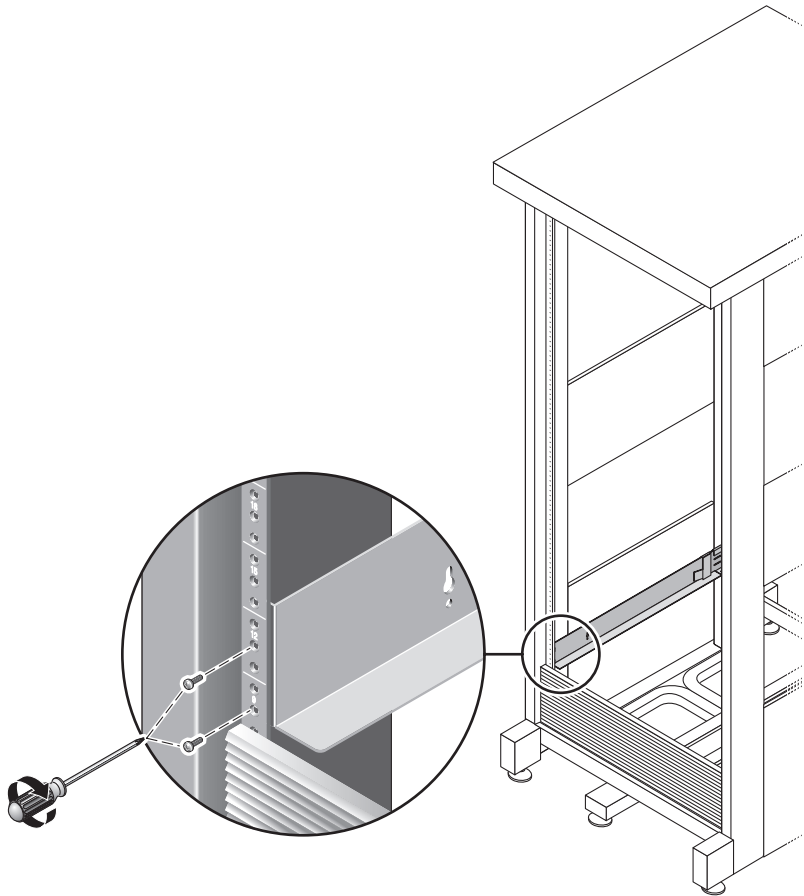

FIGURE 2-9 Securing the Left Rail to the Front of the Cabinet
5. Using the #2 Phillips screwdriver, insert and tighten two 8-32 screws to secure the the left rail to the front of the cabinet (FIGURE 2-9). Repeat for the right rail.